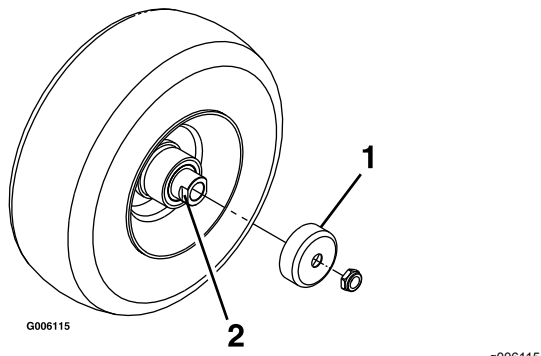

Figure 44
4. Remove the seal guards from the wheel hub (Figure 44).